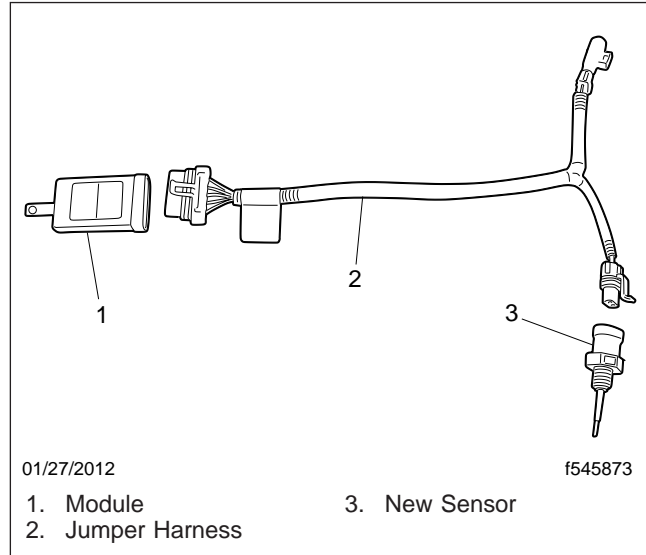

Fig. 3, Replacement Sensor, Harness and Module
9. Connect the new wire harness to the original low coolant sensor connector, the module, and the new sensor. Secure the new harness to the existing wiring with zip ties as needed. See Fig. 3 for replacement parts.